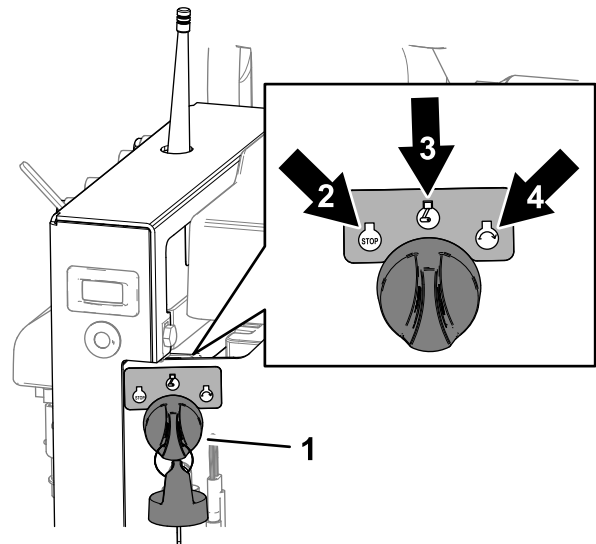

Figure 56
1. Turn the key to the OFF position (Figure 56).